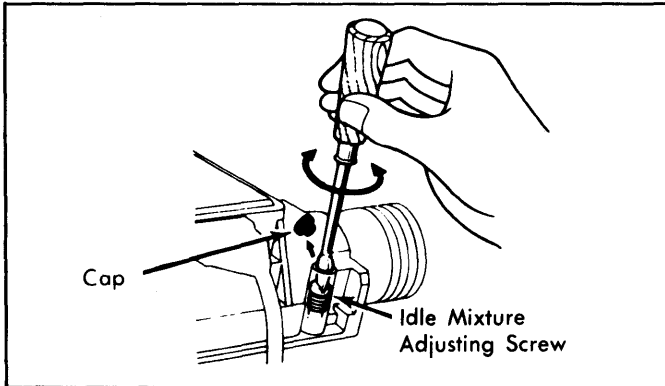

Fig. 6: EFI Idle Mixture Adjusting Screw
3) Warm engine to normal operating temperature and run engine at 2500 RPM for 2 minutes. Voltmeter needle should fluctuate. If it does not, adjust the idle mixture screw until it does. See Fig. 6.